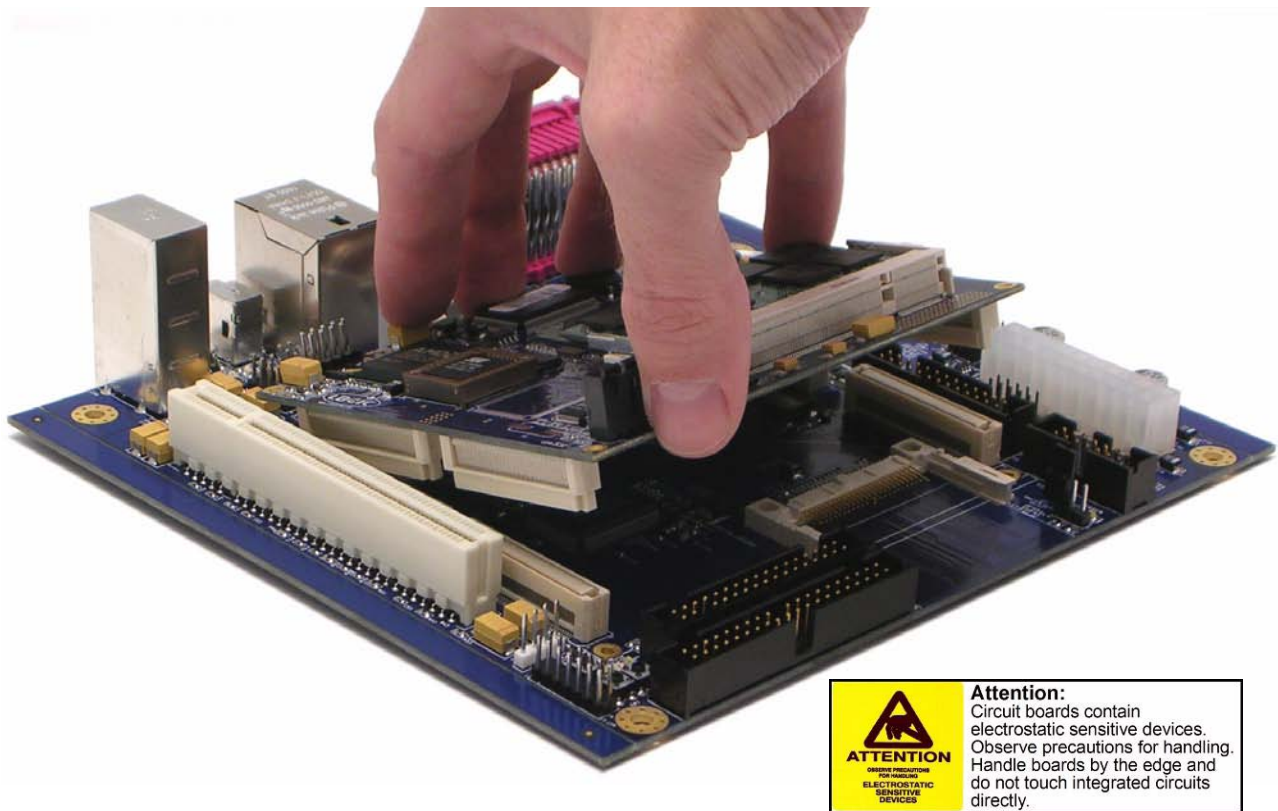

Figure 3.3 – Inserting the Geode LX SOM-ETX Module into the Mini-ITX Baseboard
- 1) Position the Geode LX SOM-ETX module's four white 100-pin Hirose connectors directly above the four mating Hirose connectors on the Mini-ITX baseboard (see Figure 3.3).